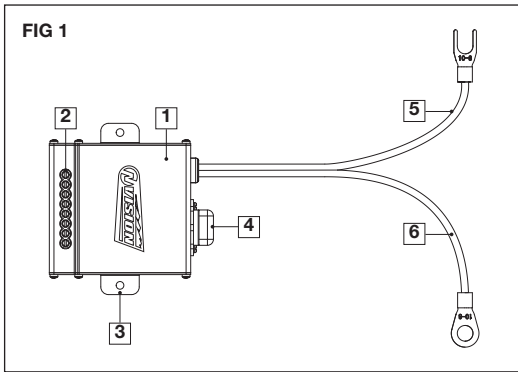

FIG 1
6. Attach the auxiliary lights/equipment following correct polarity on the terminals and not exceeding the maximum amperage of the channels. See **FIG 1** (on page 2)